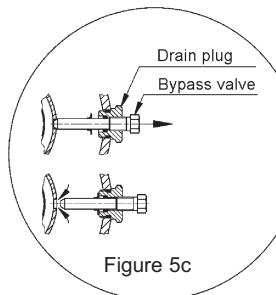

Figure 5c
**Note - CR, CRI, CRN 1s to 5:** For these pumps, it is advisable to open the bypass valve (Figure 5c) during start-up. The bypass valve connects the suction and discharge sides of the pump, thus making the filling procedure easier. When the operation is stable, the bypass valve must be closed.